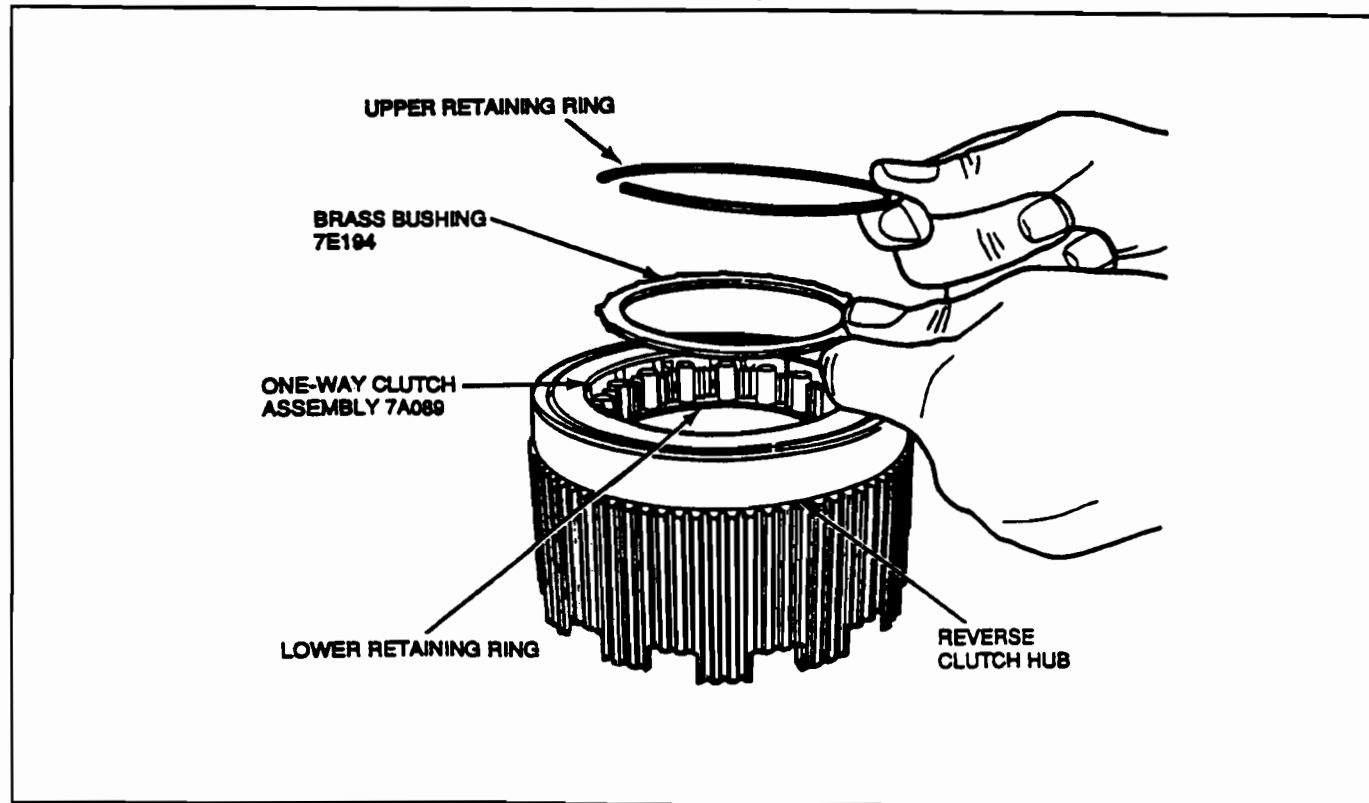

Figure 19
1. Remove upper retaining ring Figure 19 and discard.
2. Remove brass bushing and discard Fig. 19.
3. Remove roller clutch cage and lower retaining ring and discard Figure 19.